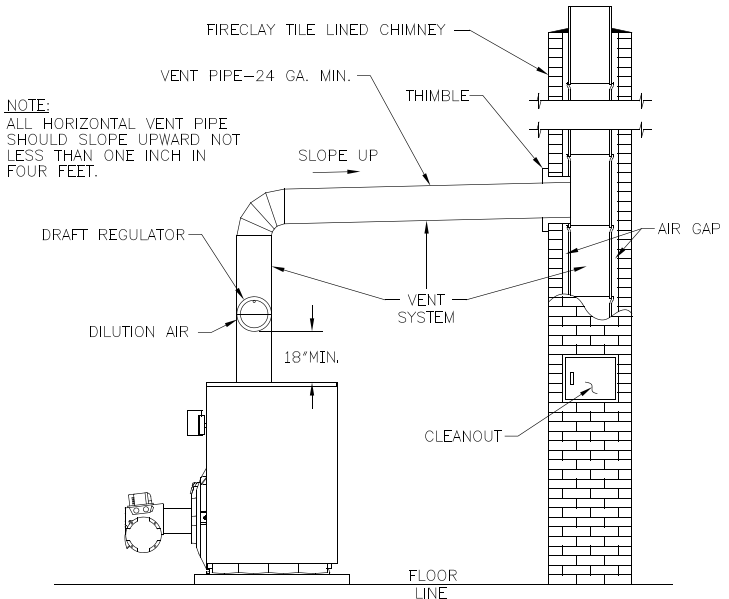

Figure 17: Recommended Smokepipe Arrangement and Chimney Requirements
5. Draft Regulator – a draft regulator must be used with this appliance. Refer to Figures 17 and 18.